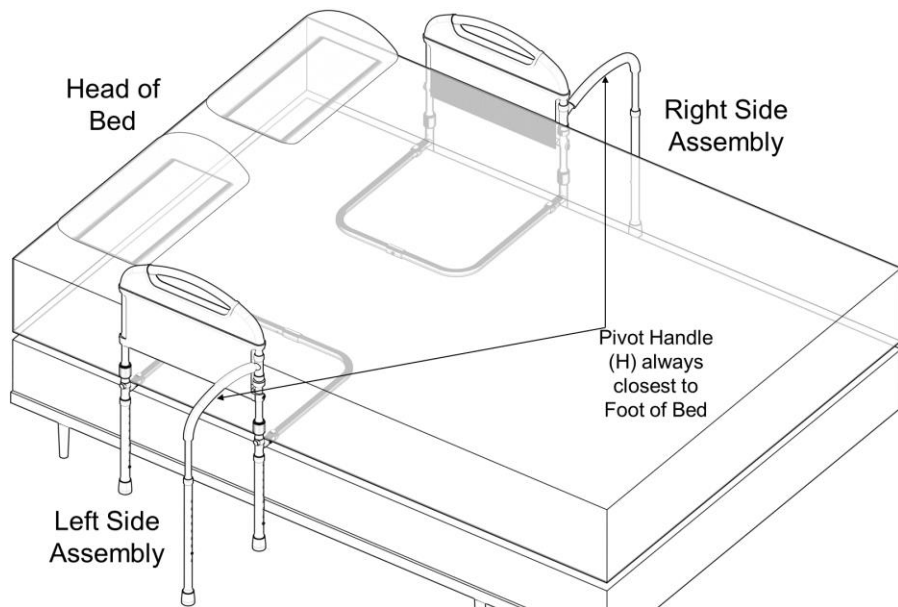

FIGURE 3
3. IMPORTANT: Determine which side of the bed the product will be installed as shown in *FIGURE 3*. The next step will be dependent on this.